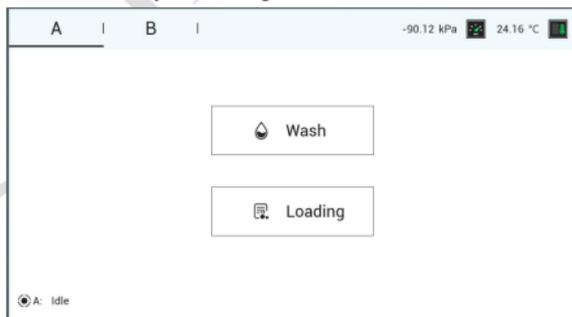

Figure 5-2: MGIDL-T7 Selection Interface
- Click on "A" or "B" to continue the operation, see Figure 5-2: